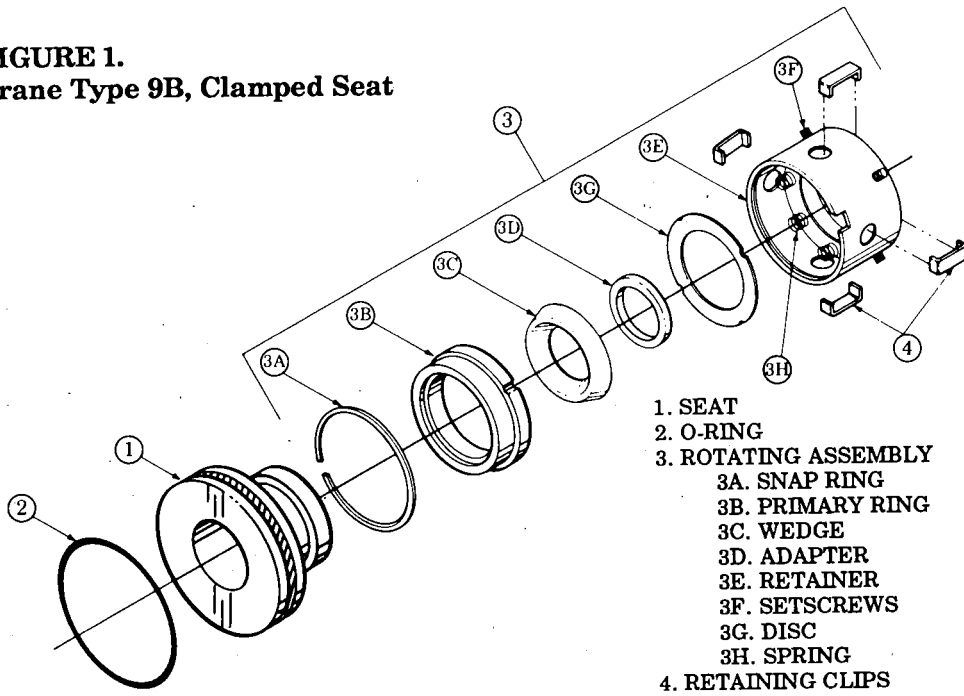
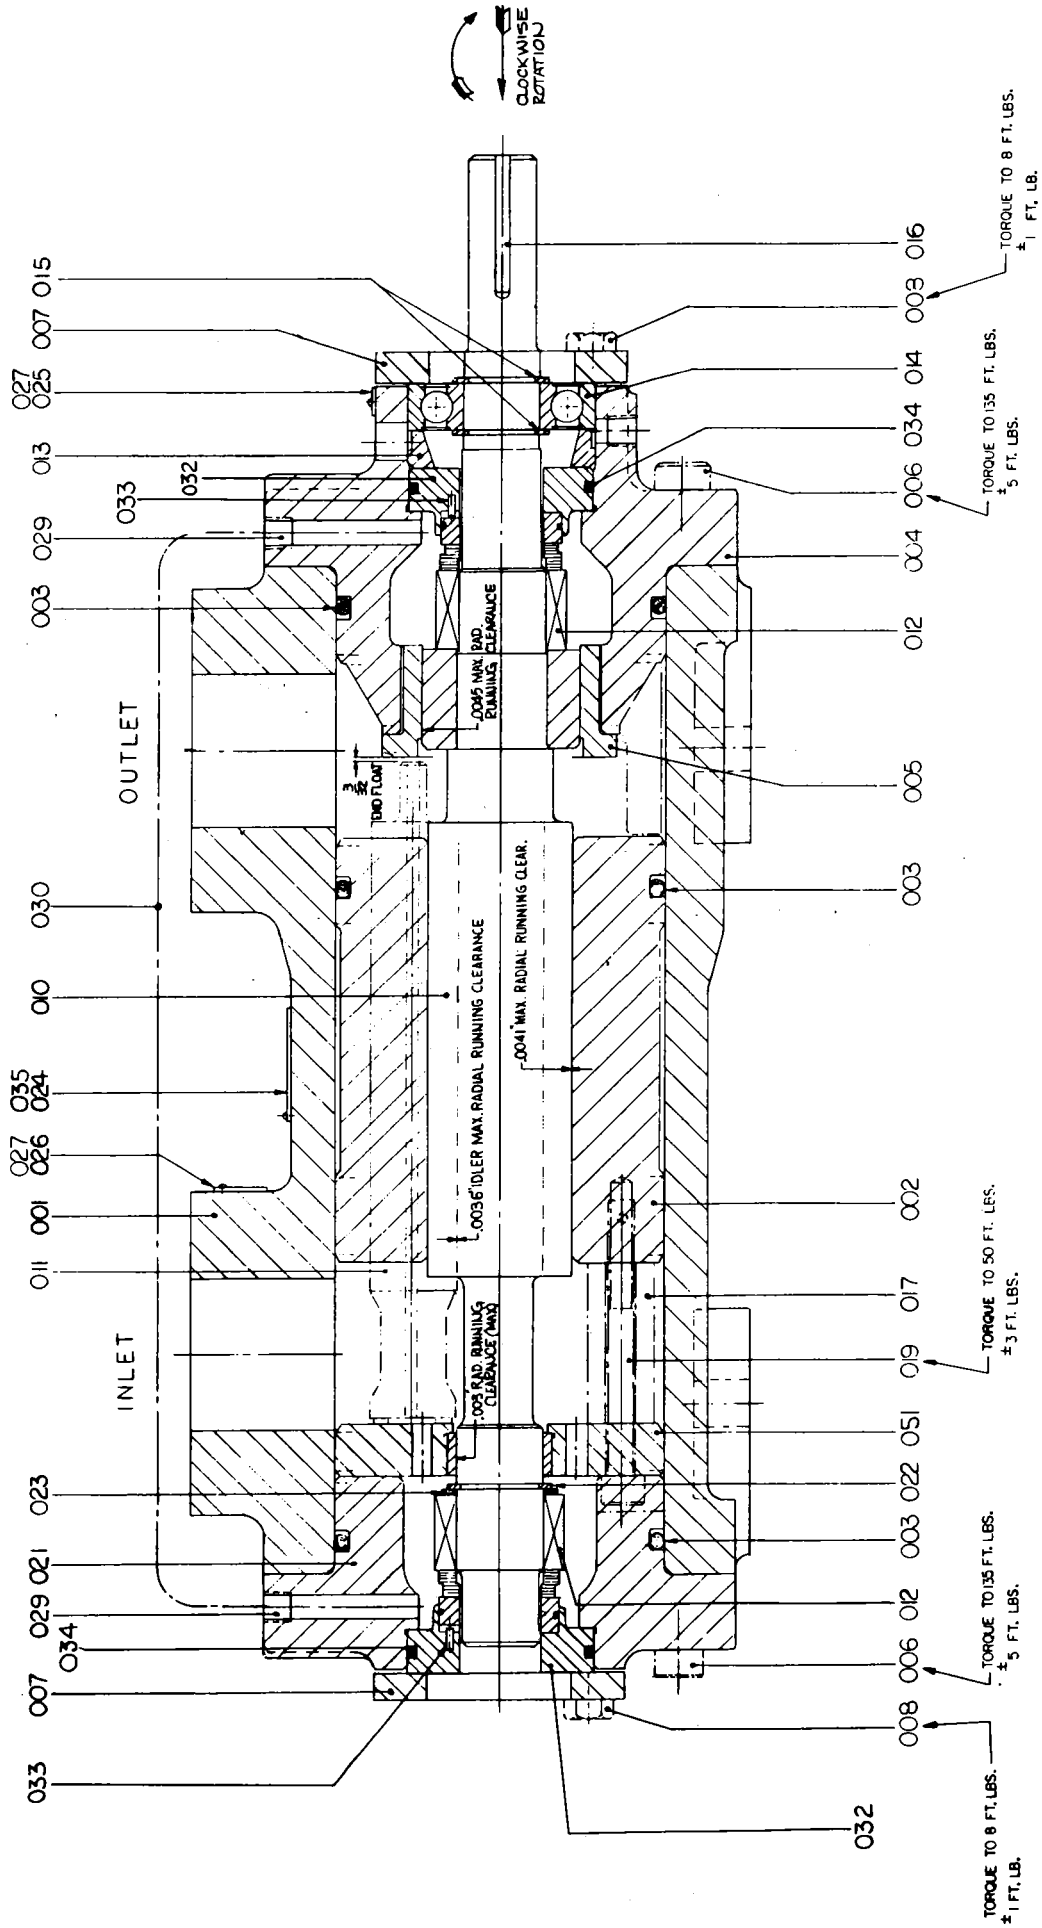

FIGURE 2.
FIGURE 6. Assembly Drawing SD-5543
(Figures 2 and 3) Stationary assembly, seat (1) and O-ring (2), is removed with seat adapter (032). Remove mechanical seal seat (1) from seat adapter (032) and remove O-ring (2) from seat (1).
(Figures 2 and 3) Install O-ring (2) on mechanical seal seat (1) and install seal seat (1) in seat adapter (032), ensuring that spring pin (033) is properly positioned to engage slot in mechanical seal seat (1).
2. Remove O-ring (003) from groove of outboard cover (021).
- b. (*Figure 6*) Removal of outboard cover (021) assembly includes removal of O-ring (003), elbow (029), seat adapter (032), spring pin (033), O-ring (034) and mechanical seal stationary seat and O-ring (1 and 2, Figure 2 or 3).
1. Remove seat adapter (032) assembly, consisting of seat adapter (032), O-ring (034), spring pin (033) and mechanical seal seat and O-ring (1 and 2, Figure 2 or 3), from outboard cover (021).
2. Remove mechanical seal stationary seat and O-ring (1 and 2, Figure 2 or 3) from seat adapter (032) as outlined in Mechanical Seals.
3. Remove O-ring (034) from groove of seat adapter (032). If necessary, remove spring pin (033).
4. Remove O-ring (003) from groove of outboard cover (021).
- f. *(Figure 6)* Remove seat adapter (032) assembly, consisting of seat adapter (032), O-ring (034), spring pin (033) and mechanical seal stationary seat and O-ring (1 and 2, Figure 2 or 3), from power rotor (010).
- 1. Remove mechanical seal seat and O-ring (1 and 2, Figure 2 or 3) from seat adapter (032) as outlined in Mechanical Seals.
- 2. Remove O-ring (034) from groove of seat adapter (032). If necessary, remove spring pin (033).
- c. (*Figure 6*) Install mechanical seal seat and O-ring (1 and 2, Figure 2 or 3) in seat adapter (032) as outlined in Mechanical Seals. Install O-ring (034) in groove of seat adapter (032) and install assembled seat adapter (032) on power rotor (010) shaft.
- d. Install spacer (013) on power rotor (010) shaft.
- e. Install inner retaining ring (015) in groove of power rotor (010) shaft.
- f. Press ball bearing (014) on power rotor (010) shaft, pressing only on inner race of bearing.
- g. Install outer retaining ring (015) in groove of power rotor (010) shaft to retain bearing.
- h. Install assembled power rotor (010) into inboard cover (004) and pump case (001) by rotating power rotor (010) in direction of normal pump rotation to mesh threads of power rotor (010) with threads of idlers (011). NOTE: Ensure that all parts are centered and properly positioned as they enter inboard cover (004).
- c. (Figure 6) Install seal stationary assembly seat (1) and O-ring (2), Figures 2 and 3 in seat adapter (032) as outlined in Mechanical Seals. Measure distance from face of seat adapter (032) to face of mechanical seal seat to determine dimension "B".
- d. Subtract dimension "B" from dimension "A" and add .010. From this dimension, subtract the working length (1 3/8-inch, ± .010-inch) of the mechanical seal. The resulting dimension will be the proper thickness of shim (023).
- e. Add or remove layers of laminated shim (023) to adjust shim to proper thickness as determined above.
- b. (Figure 6) Install mechanical seal stationary assembly in seat adapter as outlined in Mechanical Seals. Install O-ring (034) in groove of seat adapter (032) and install assembled seat adapter (032) in outboard cover (021).
c. Install O-ring (003) in groove of outboard cover (021), and install assembled outboard cover (021) to case (001) using capscrews (006). Torque capscrews (006) to 135 lbs. ft. (\pm 5 lbs. ft.).
STEP 13. Install outboard retainer (007) to outboard cover (021) using bolts (008). Torque bolts (008) to 8 lbs. ft. (\pm 1 lb. ft.).
STEP 14. Install external tubing (030) using elbows (029) in inboard cover (004) and outboard cover (021).
STEP 15. Install coupling hub and key (016).